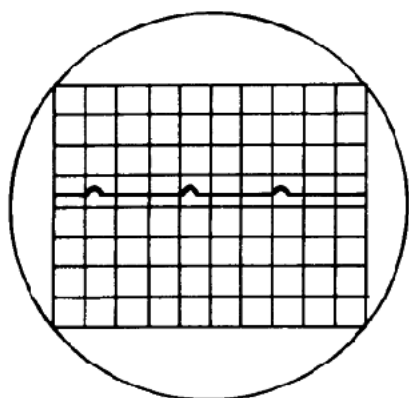
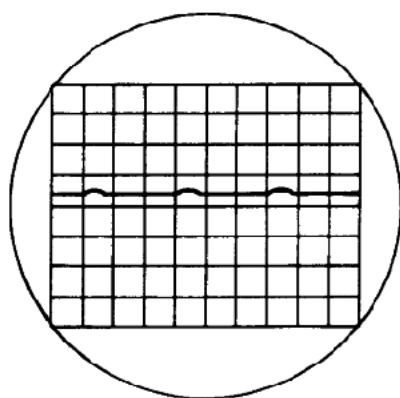

Fig. 3
Fig. 4
3. No increase in a.c. supply current for increase in signal□ Signal is unstable and clips□ 100W output for 0.3V input□ Waveform trace as in Fig. 3□ Waveform trace as in Fig. 4□ Approximately 4W output□	R3 o/c, C1 o/c, R31 o/c R6 o/c R20 or R21 o/c Tr8 o/c, Tr6 s/c, R36 o/c, R30 o/c, C10 s/c L2 o/c (solder joints) R16 o/c